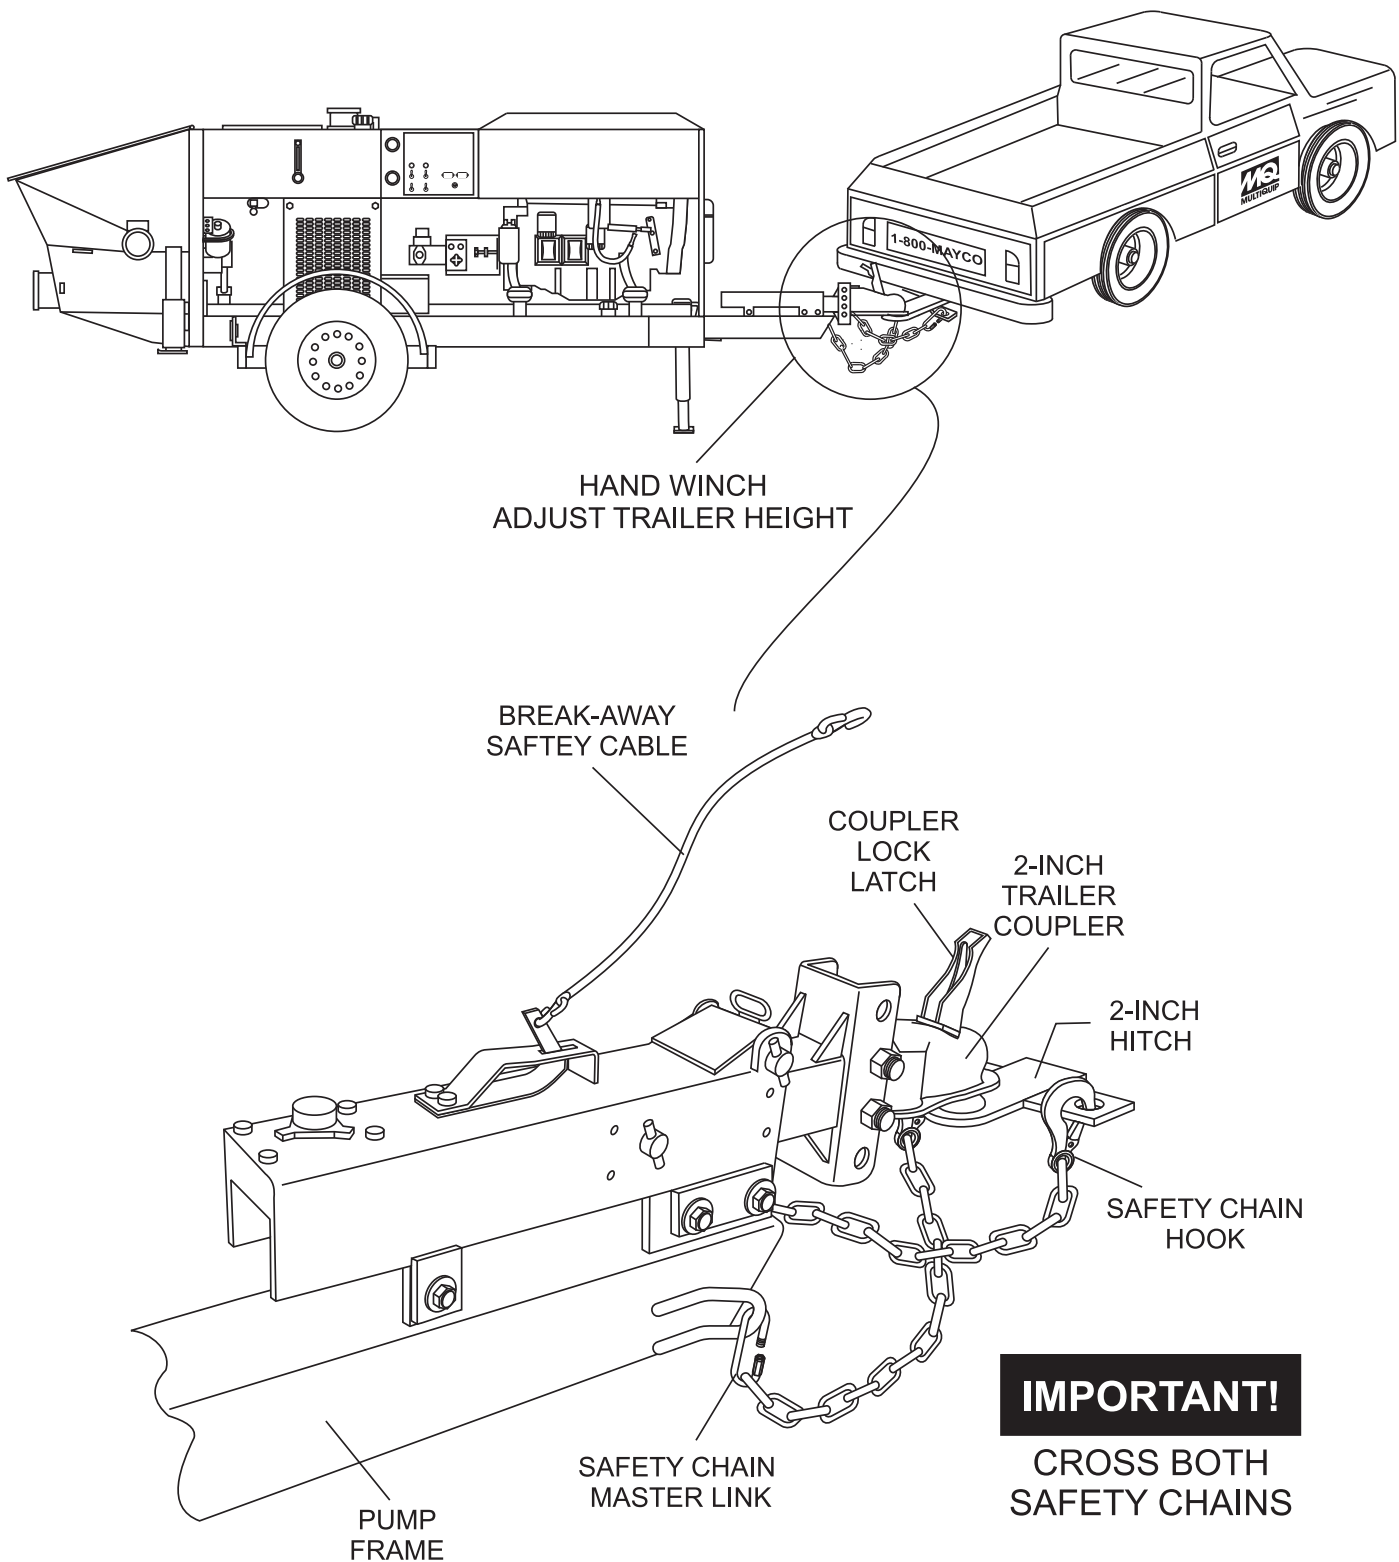

Figure 40. Trailer Hitch Connections
4. Attach safety chains as shown in Figure 40. Remember to **cross** the safety chains.
Figure 40 shown below illustrates the typical towing application that should be used when towing the pump.